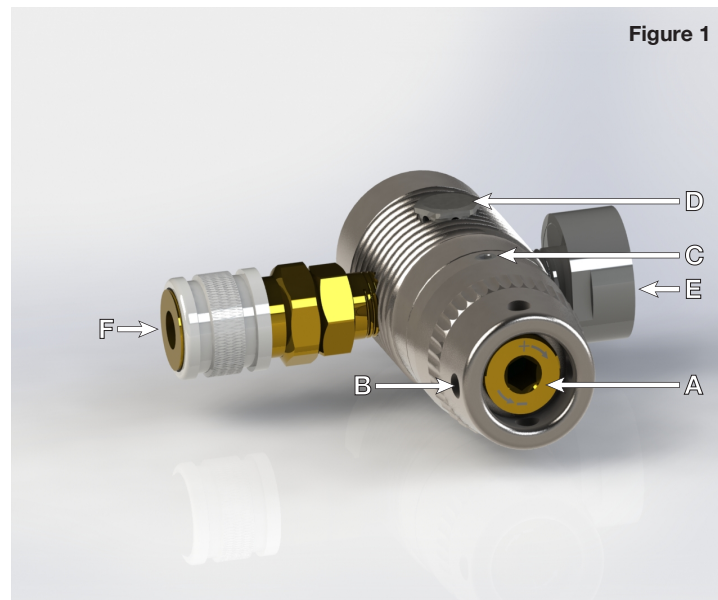

Figure 1
QUICK START GUIDE (reference figure 1):
- Verify Adjuster (Figure 1: A.) is at the maximum, turning counter clockwise until it stops, using a 3/16 Allen (hex) key.
- If the air pressure is increased beyond the factory Resetting Pressure Relief Valve (Figure 1: D.) set point (140-150psi), the Resetting Pressure Relief Valve will begin to vent. Quickly turn the adjuster at least one full turn Counter Clockwise to decrease the pressure output and the Resetting Pressure Relief Valve will reset.